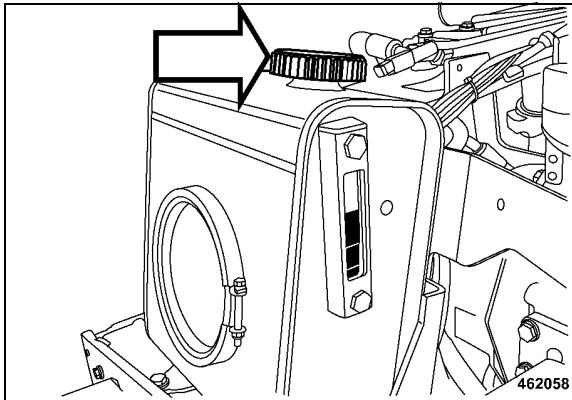

Fig. 154
- Remove the cap from the hydraulic oil tank (Fig. 154).